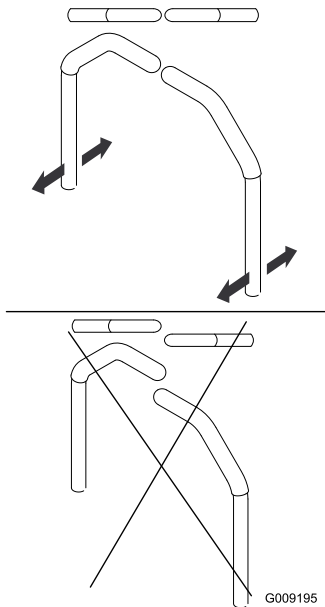

Figure 80
4. Align the levers in the front-to-rear position by bringing the levers together to the neutral position, and slide them until they are aligned, then tighten the bolts (Figure 80).